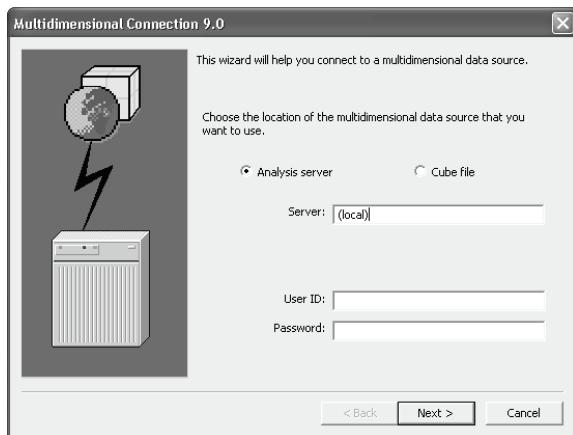

Figure 19.2 A PivotTable report can source data from server-based and local cubes.
- In the *Multidimensional Connection 9.0* dialog (Figure 19.2), select the *Analysis Services* option. Note that you can use a local cube file as a data source. Assuming that you need to connect to your local Analysis Services server, enter **(local)** as a server name and click Next.
- In Step 4, specify the full path to the cube file and click Finish to create it. Next, you can configure the PivotTable component to connect to the local cube file when setting up the data source connection (see Figure 19.2) or at a later time by using the Offline OLAP Settings dialog.